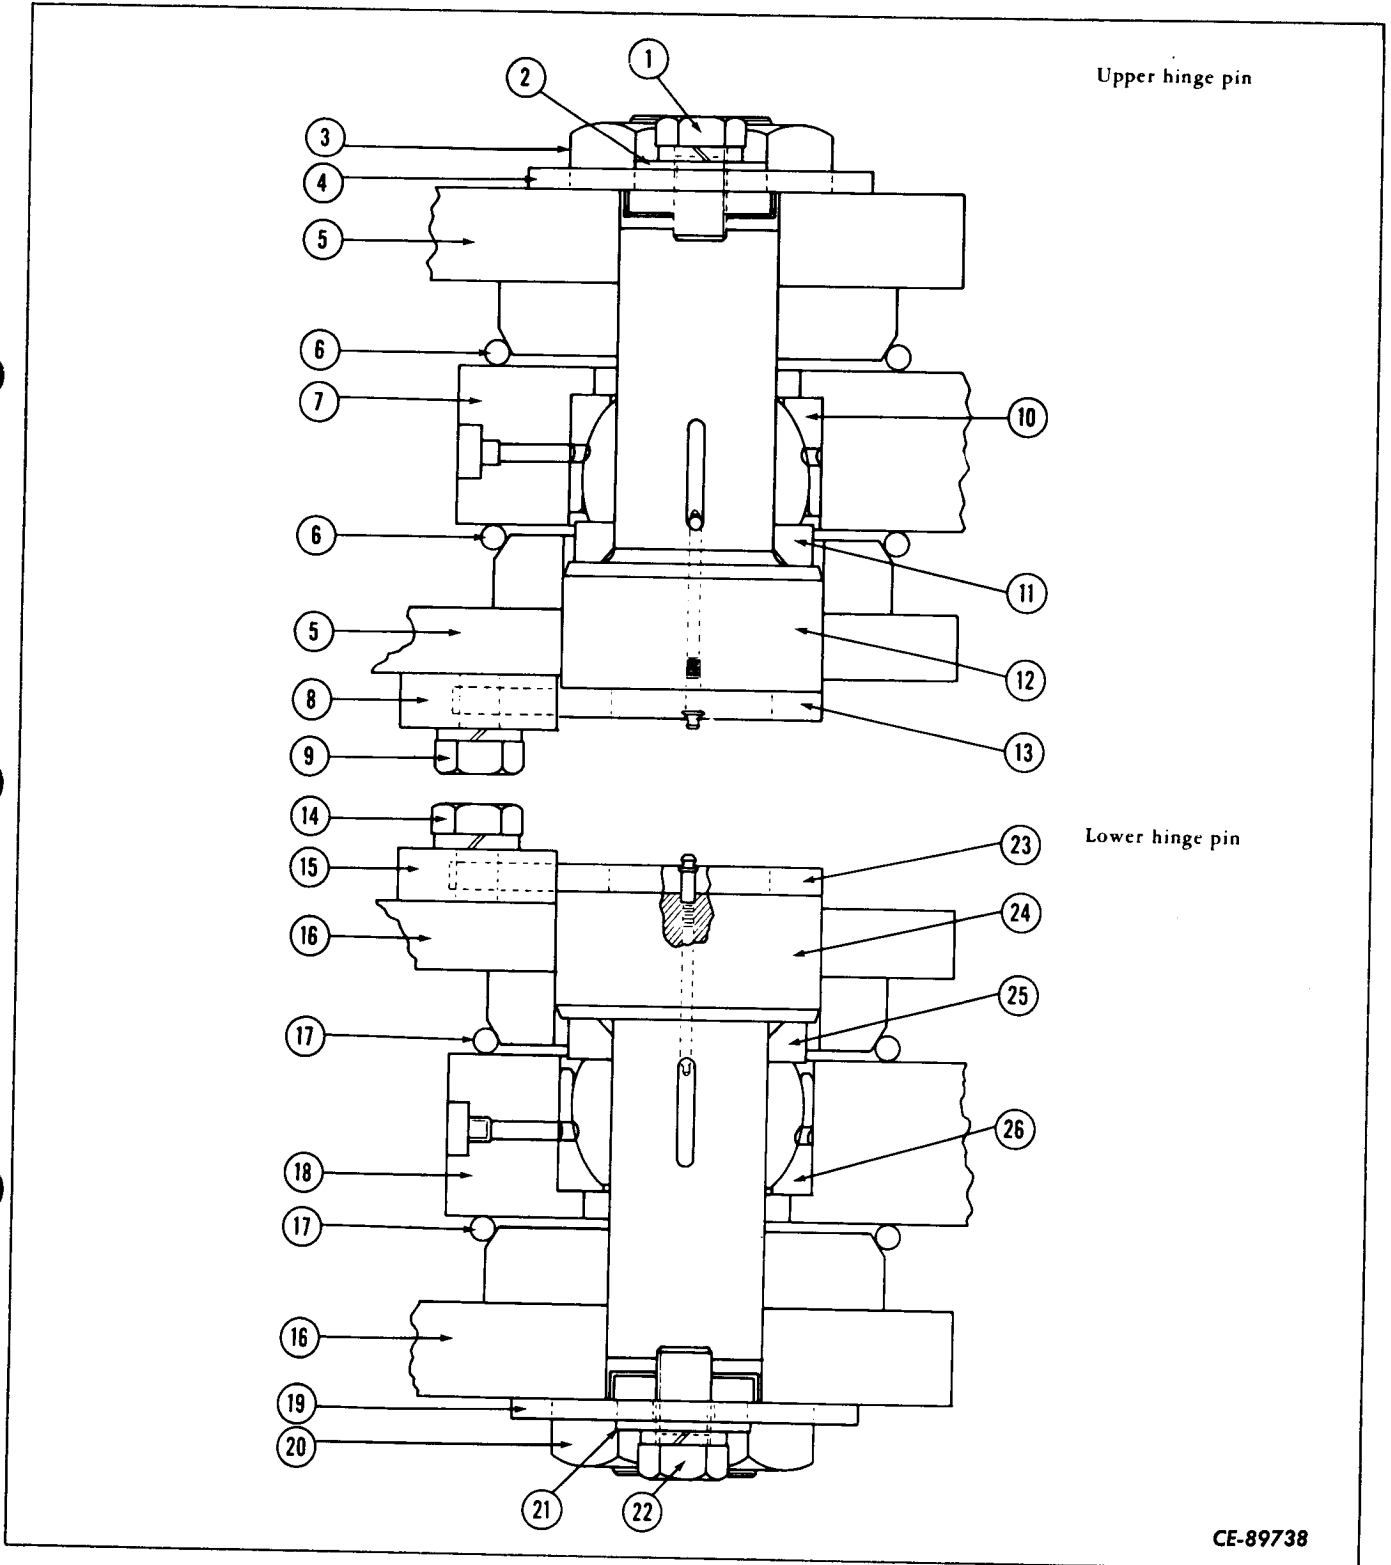

Figure 1-6
Adjust hinge spacing using top nut (3, Fig. 1-6) so that frame tongues (7, 18) are centered between rear frame ears (5, 16). Bottom nut (20) must be loose during spacing adjustment.
Legend for Figure 1-6
Rotate cam (8, 15, Fig. 1-6) clockwise to contact pin lock plate (13, 23).